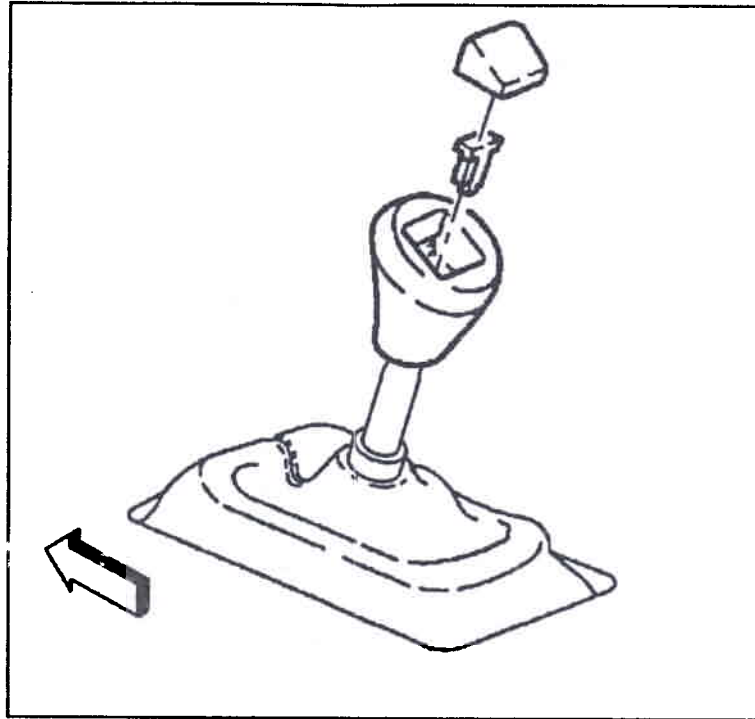

FIGURE 1
1. Place the shifter into fourth gear. Using a small flat blade screwdriver at the front edge of the shift pattern indicator, carefully pry out indicator from shifter knob. Using a pair of Vise-Grips, clamp tightly and pull the metal "T" retainer up and out of the knob. **Note:** The "T" retainer is usually very difficult to remove. Use care to avoid damaging other components. **Tip:** While pulling upward, rock Vise-Grips from side to side or tap side of Vise-Grips with a hammer. Unscrew knob from shift lever. *(Refer to Fig.1 on page 4)*